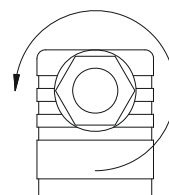

Fig. 7
- ⚡ Loosen the screwed cable gland ⑤ M16x1,5 (→ Fig. 7).